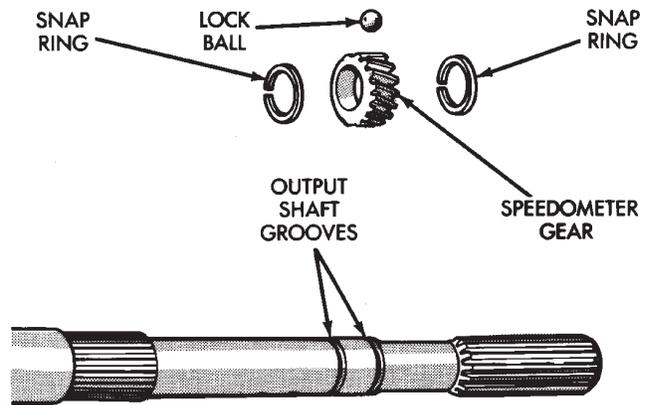
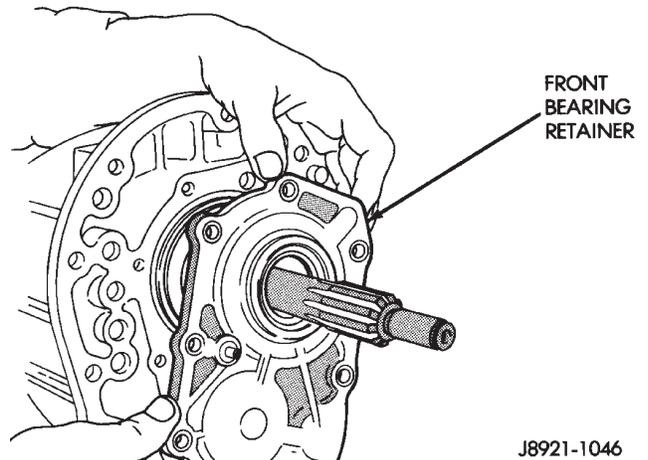

Fig. 28 Speedometer Drive Gear Assembly
Fig. 29 Remove Front Bearing Retainer
- (18) On 4x2 transmissions;
- (c) Remove speedometer drive gear locating snap-ring (Fig. 28).
- (19) Remove the bolts holding the front bearing retainer to the transmission case.
- (20) Remove the bearing retainer from transmission case (Fig. 29).